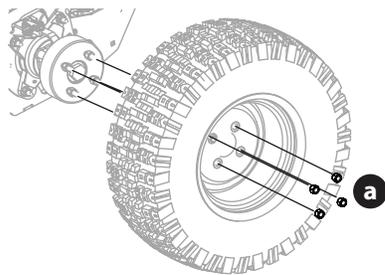

Figure 47
1. Remove the four lug nuts (a) to remove the tire (Figure 47).
2. Reinstall the tire using the four lug nuts (Figure 47). Torque the lug nuts (a) to 65-70 ft-lbs (88-95 N-m).